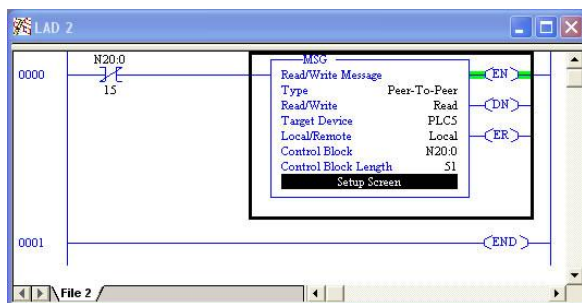

Figure 70: Completed PLC Program
7) The program is now complete. Refer to Figure 70.